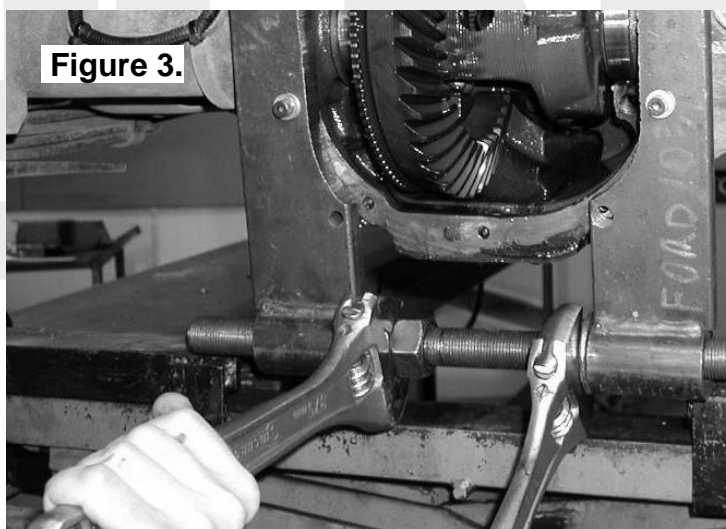

Figure 3.
- Carefully spread the housing (Fig. 3.) enough to remove the differential center. (Refer to your vehicle's service manual).